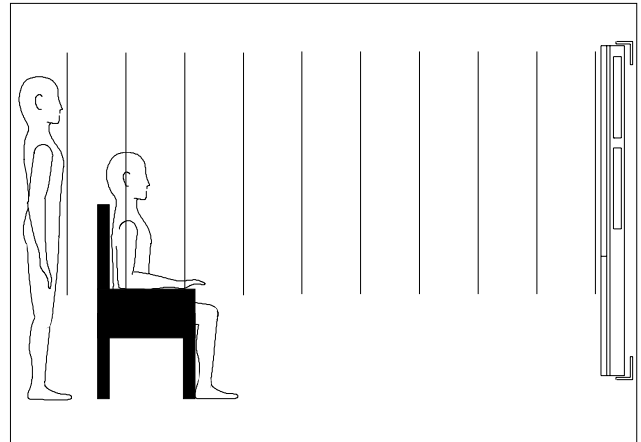

Figure 2. Your Stylos speaker system is a 38" line source when viewed vertically.
STEP 3 (Figures 2 & 3)
As you can see from the illustrations, your Stylos speakers project a controlled dispersion pattern. Each Stylos is a 38" line source. See *Figure 2*. This vertical dispersion profile minimizes interactions with the floor and the ceiling.